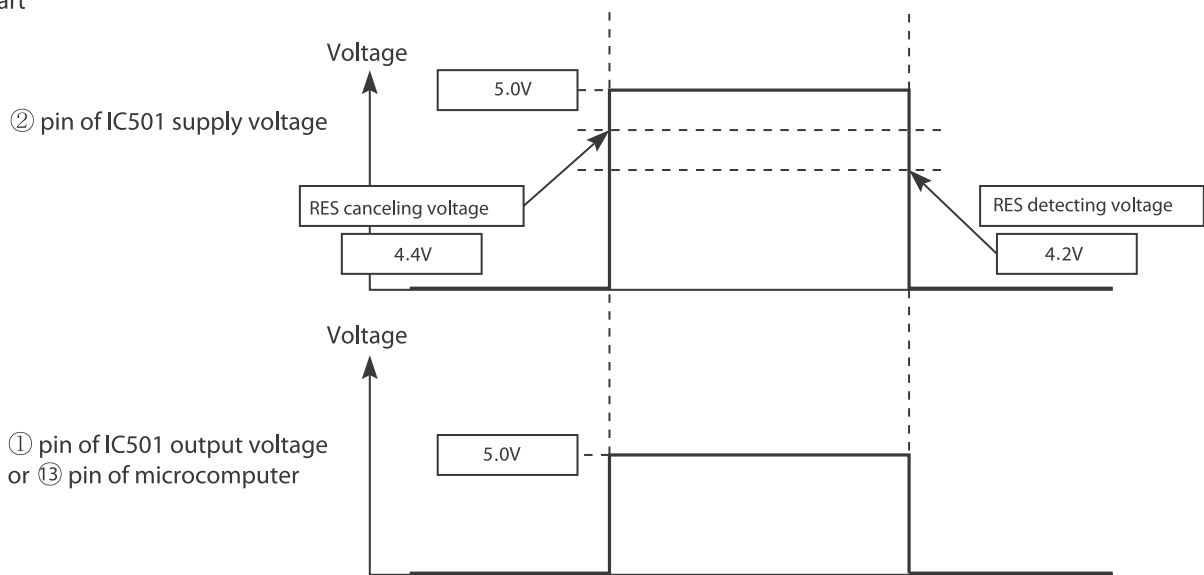

Fig. 3-2
- Low voltage at pin ⑬ resets the microcomputer and Hi activates the microcomputer.
- Waveform of each part when switching ON the power and when shutting down is shown in the Fig. 3-2.
- After switching ON the power, ① pin of IC501 supply voltage and ⑬ pin of microcomputer becomes Hi when DC5V line rises and reaches approximately 4.4V or higher. Then, resetting will be cancelled and microcomputer starts operating.
- After shutting down the power, ① pin of IC501 supply voltage and ⑬ pin of microcomputer becomes Lo when DC5V line falls and reaches approximately 4.2V or lower. Then, the microcomputer will be in reset condition.